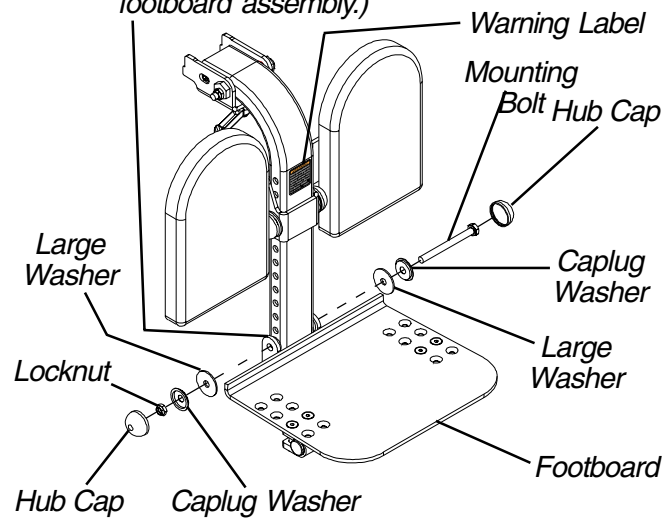

FIGURE 13 - ADJUSTING THE FOOTBOARD HEIGHT
### Height (FIGURE 13)
1. Remove the two (2) hub caps that cover the mounting bolt of the footboard assembly.
2. Remove the mounting bolt, locknut, two (2) caplug washers, two (2) large washers, and two (2) spacers that secure the footboard assembly to the legrest tube.
*NOTE: Do NOT cover the warning label on the legrest tube shown in FIGURE 13.*
4. Secure the footboard assembly to the legrest tube in the position determined in STEP 3 with the mounting bolt, two (2) cap caplug washers, two (2) large washers, two (2) spacers and locknut. Securely tighten.
5. Replace the two (2) hub caps.